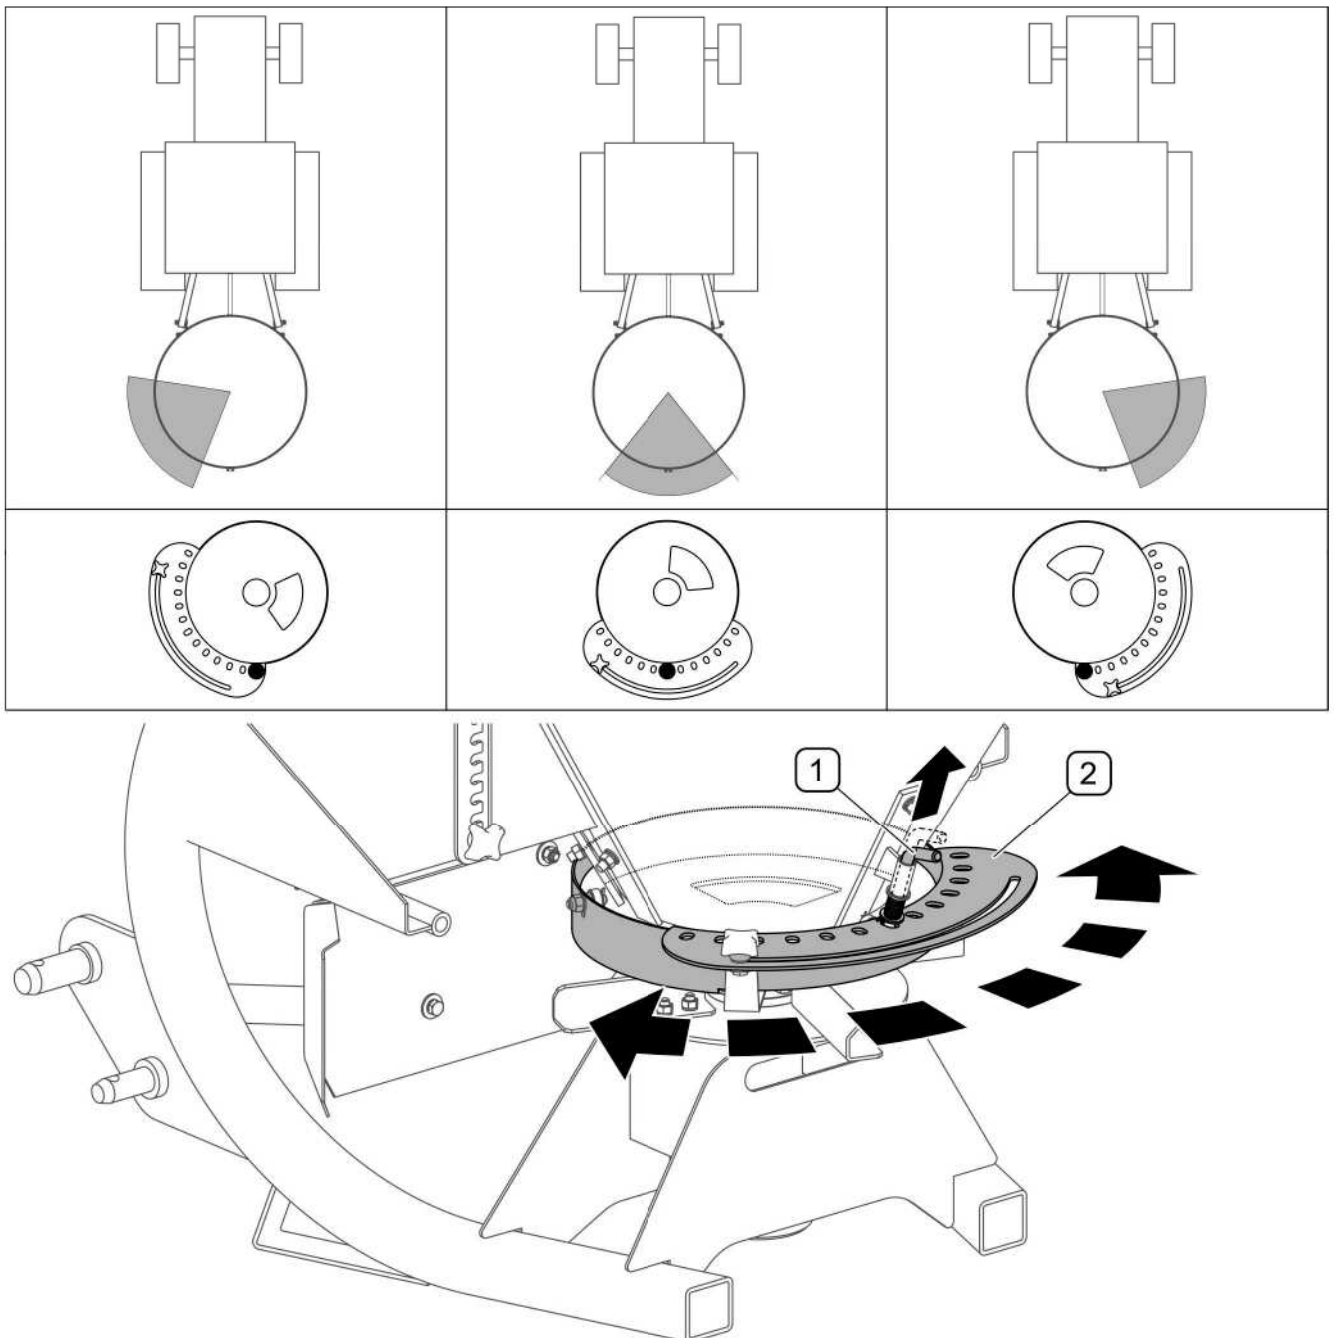

FIG. 4.6 Adjustment of spreading direction
(1)- securing pin; (2)- direction adjusting disc
Adjustment of spreading direction (FIG. 4.6) is performed by pulling out securing pin (1) and turning disc (2) around the vertical axis of the tank. After relocating the disc to a required position, secure the disc against relocation by inserting the securing pin end to a proper hole in the disc. Setting the securing pin (1) in the central hole of the disc (2) enables symmetrical spreading with regard to the tractor driving axis. In order to obtain left-sided asymmetrical spreading (*looking in the direction of tractor travel*), turn the disc clockwise from the central